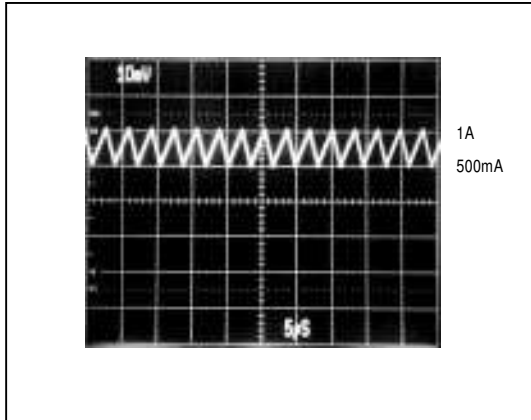

Figure 4a. CCM, Heavy Load Current Waveform (500mA/div)
The MAX761/MAX762 also limit the peak inductor current, allowing the devices to run in continuous-conduction mode (CCM) and maintain high efficiency with heavy loads (Figure 4a). This current-limiting feature is a key component of the control circuitry. Once turned on, the switch stays on until either (1) the maximum on-time one-shot turns it off ($8\mu\text{s}$ later), or (2) the current limit is reached.
The coil's inductance need not satisfy this criterion exactly, as the circuit can tolerate a wide range of values. Larger inductance values tend to produce physically larger coils and increase the start-up time, but are otherwise acceptable. Smaller inductance values allow the coil current to ramp up to higher levels before the switch can turn off, producing higher ripple at light loads. In general, an $18\mu\text{H}$ inductor is sufficient for most applications ($V_{\text{IN}} \leq 5\text{V}$). An $18\mu\text{H}$ inductor is appropriate for input voltages up to 3.6V , as calculated above. However, the same $18\mu\text{H}$ coil can be used with input voltages up to 5V with only small increases in peak current, as shown in Figures 4a and 4b.